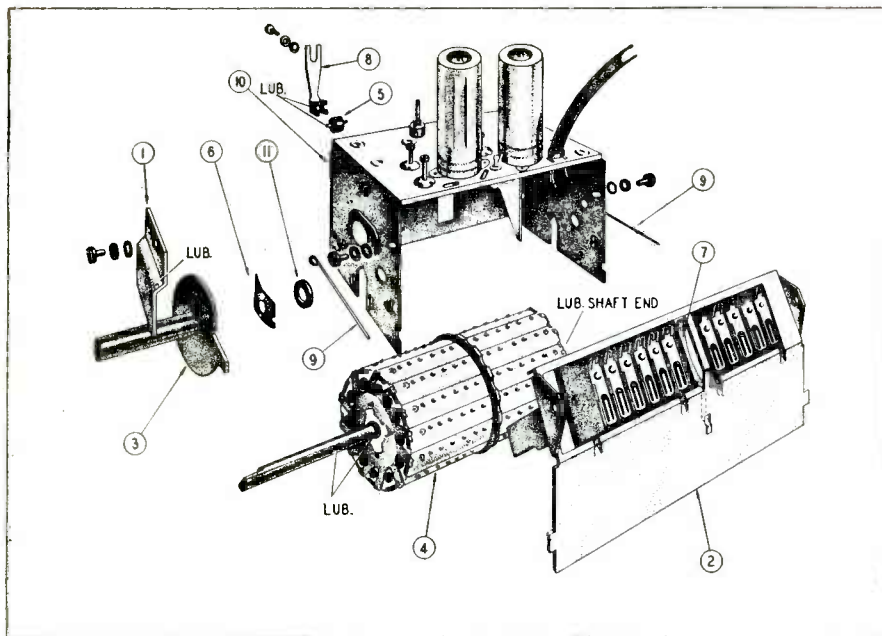

Fig. 3-58: Exploded view of Philco 12-position turret tuner.
The principles of cleaning and lubrication outlined in this section can perhaps be better understood by applying them to the exploded view of a typical turret tuner as shown in Fig. 3-58. As shown in the figure, mechanical lubrication (vaseline or Viscosity Oil Co. #8072 lubricant) is applied between the outside bracket of the fine tuning condenser (1) and the rotor of same; to the turret indexing roller (5) and its supporting spring (8); and the shaft on one side of the turret and the shaft end on the other side.
Figure 3-58 illustrates the location of the contact springs in the Philco 12-position tuner (Standard Tuner). Notice that all contacts are mounted on the panel assembly. Should these springs make poor contact to the coils because of insufficient tension, several sets of coils should be removed to get at the springs. The springs should then be bent inward with a narrow-bladed screw driver RSD 4 Marshall
Sometimes it will be found that the springs are damaged beyond repair. In such cases it becomes necessary to replace the entire contact panel assembly. See (2) in Fig. 3-58.